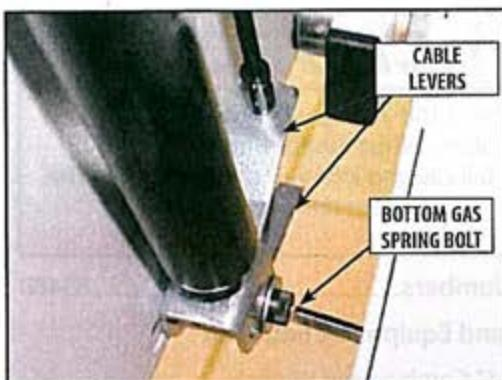

FIGURE 5.7
2. Reaching under the table, press the levers on the bottom of the Gas Spring together and release the cable by pulling the barrel end of the cable down and out. **Refer to Figure 5.7.**